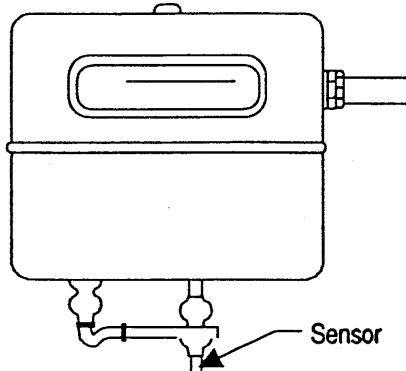

Figure 6.2 Sensor in Meter
1. Remove the bottom cover, glass, and valve. Locate the sensor (Figure 6.2).